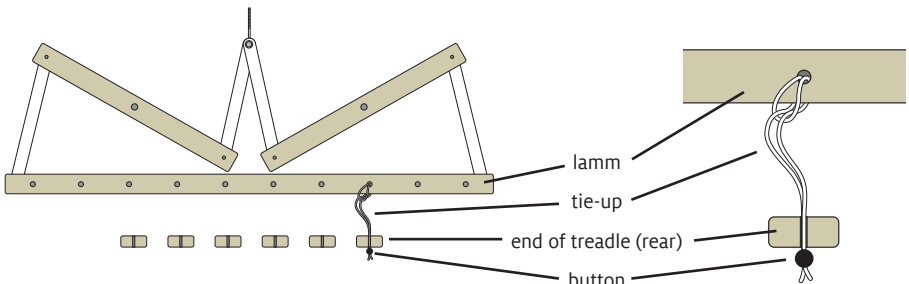

FIGURE 5: INSTALLING TIE-UP CORDS
18. Tie shafts to a treadle by slipping a tie-up cord into the slot in a treadle (Figure 5). Work from the front lamm to the rear lamm for each treadle. After you have completed your tie-up, check each treadle by pushing it all the way to the floor and releasing it, making sure that the button